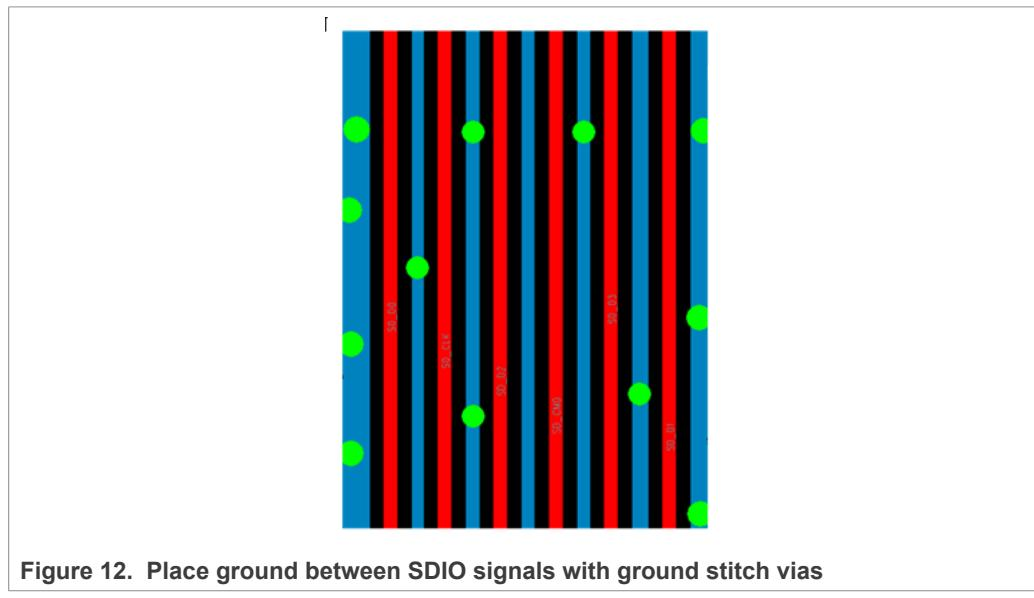

Figure 12. Place ground between SDIO signals with ground stitch vias
- Place the ground plane along with SDIO signals with stitch vias as shown in Figure 12.